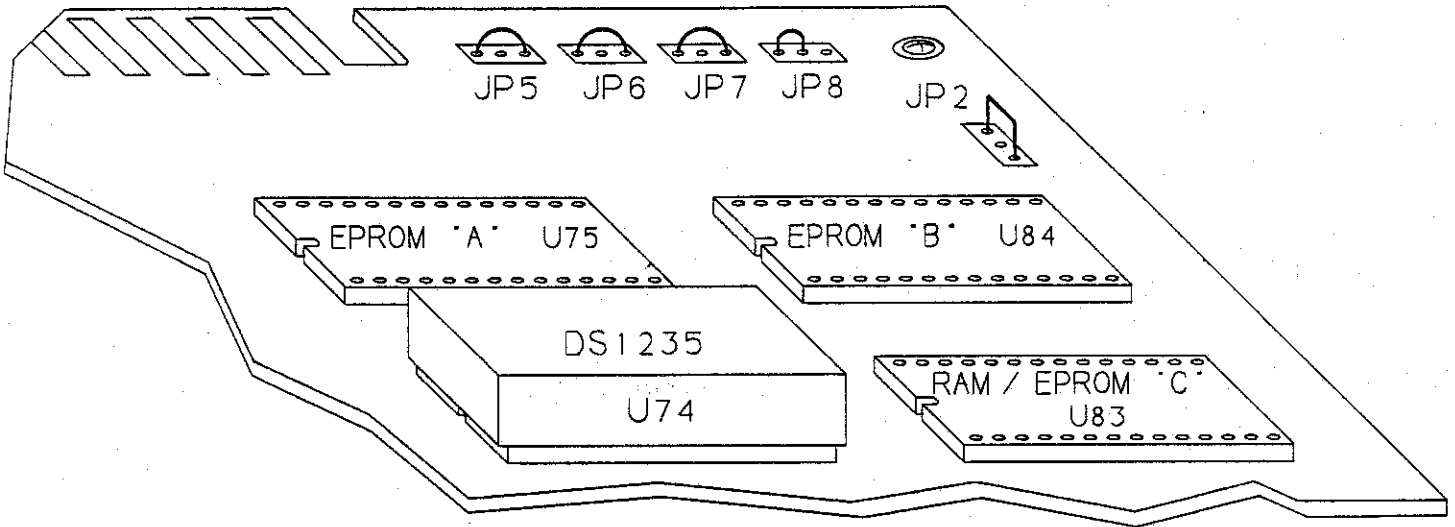

Figure 1. Location of EPROMs, RAMs and Jumpers
3. The Zeta-Three's memory components are all located at the front right corner of the main circuit board, just behind the CAPTURE key, as shown in Figure 1.
Figure 1 shows all five of these jumpers configured as they must be for the ZETA-THREE to operate correctly (or at all). Carefully compare the diagram with the jumpers on your board.
8. Install the supplied EPROM marked "A" in socket U75, located as shown in Figure 1.
9. Following the same precautions, install EPROM "B" in socket U84 (located front right, as in Figure 1).
Double check that the components are arranged as shown in Figure 1.
3. The ZETA-THREE^{em}'s memory components are all located at the front right corner of the main circuit board, just behind the CAPTURE key, as shown in Figure 1.
6. Install the supplied EPROM marked "A" in socket U75, located as shown in Figure 1.
7. Following the same precautions, install EPROM "B" in socket U84 (located front right, as in Figure 1).